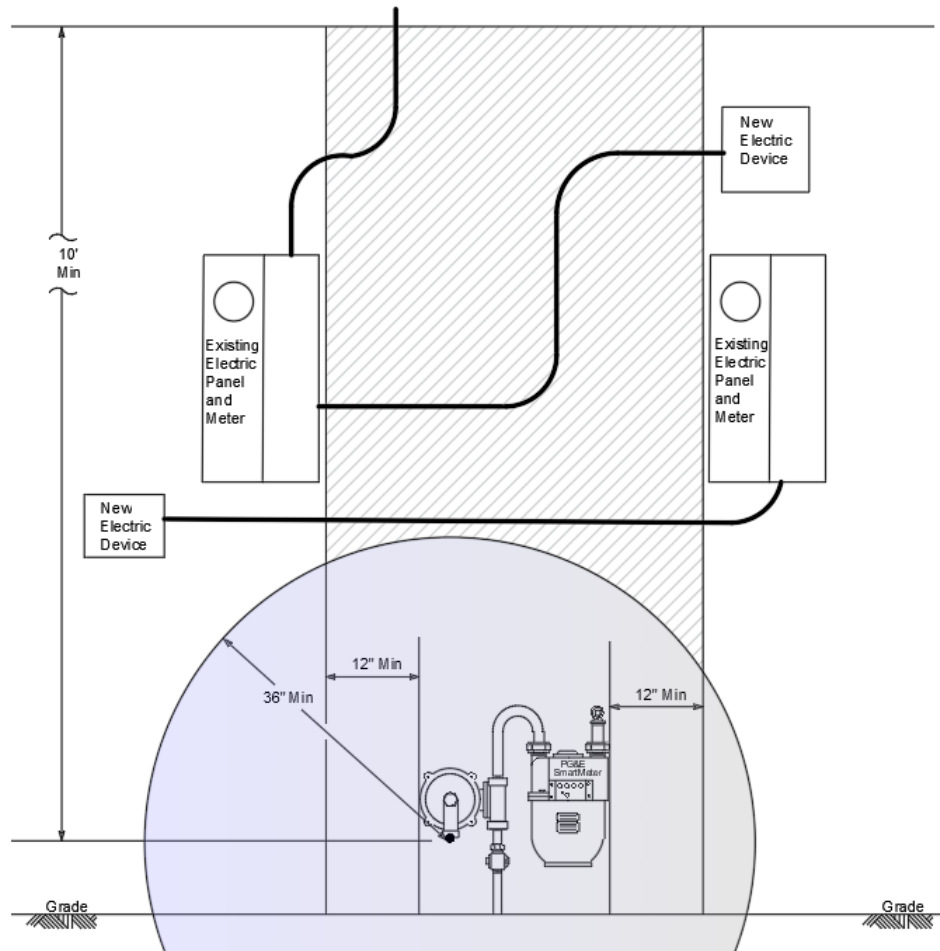

Figure 2-22. Clearance Requirements When Replacing Panels, Altering Panels, or Adding Electric Devices
- 1.2 Figure 2-22 is updated with the following:
1. The requirement for a 36-inch horizontal clearance from the gas riser when the existing or replaced electric panel is at least 12 inches from each edge of the gas meter set has been removed from Figure 2-22.
2. The electric panel must not reside within 12 inches on either side of PG&E gas facilities and 10 feet above the regulator vent opening as shown in Figure 2-22, **“Clearance Requirements When Replacing Panels, Altering Panels, or Adding Electric Devices,”** on Page 2-38. If any portion of the existing electric panel resides within this area, the electric panel must be relocated outside all clearance areas shown in Figure 2-22 before **electrical equipment is installed, the panel is replaced, or** any conduit connection is made.
3. Additional electric equipment **or** devices must not be installed within the clearance areas shown in Figure 2-22.